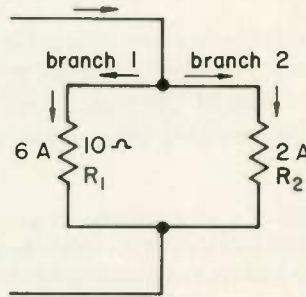

Fig. 7
1. A given circuit includes two parallel branches, as shown in Fig. 7. The current through each branch is inversely proportional to the resistance of that branch. In branch 1 the resistance is 10 ohms and current flow is 6 amps. If the current in branch 2 is 2 amps, find the resistance (R_2) of branch 2.